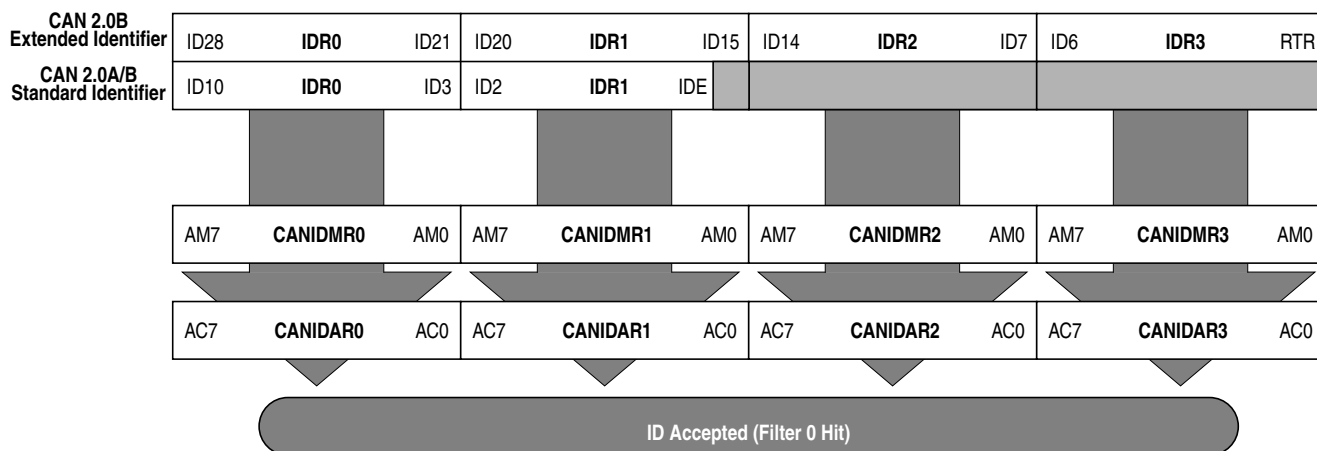

Figure 12-39. 32-bit Maskable Identifier Acceptance Filter
- The 11 bits of the standard identifier plus the RTR and IDE bits of the CAN 2.0A/B messages¹. This mode implements two filters for a full length CAN 2.0B compliant extended identifier. Figure 12-39 shows how the first 32-bit filter bank (CANIDAR0–CANIDAR3, CANIDMR0–CANIDMR3) produces a filter 0 hit. Similarly, the second filter bank (CANIDAR4–CANIDAR7, CANIDMR4–CANIDMR7) produces a filter 1 hit.